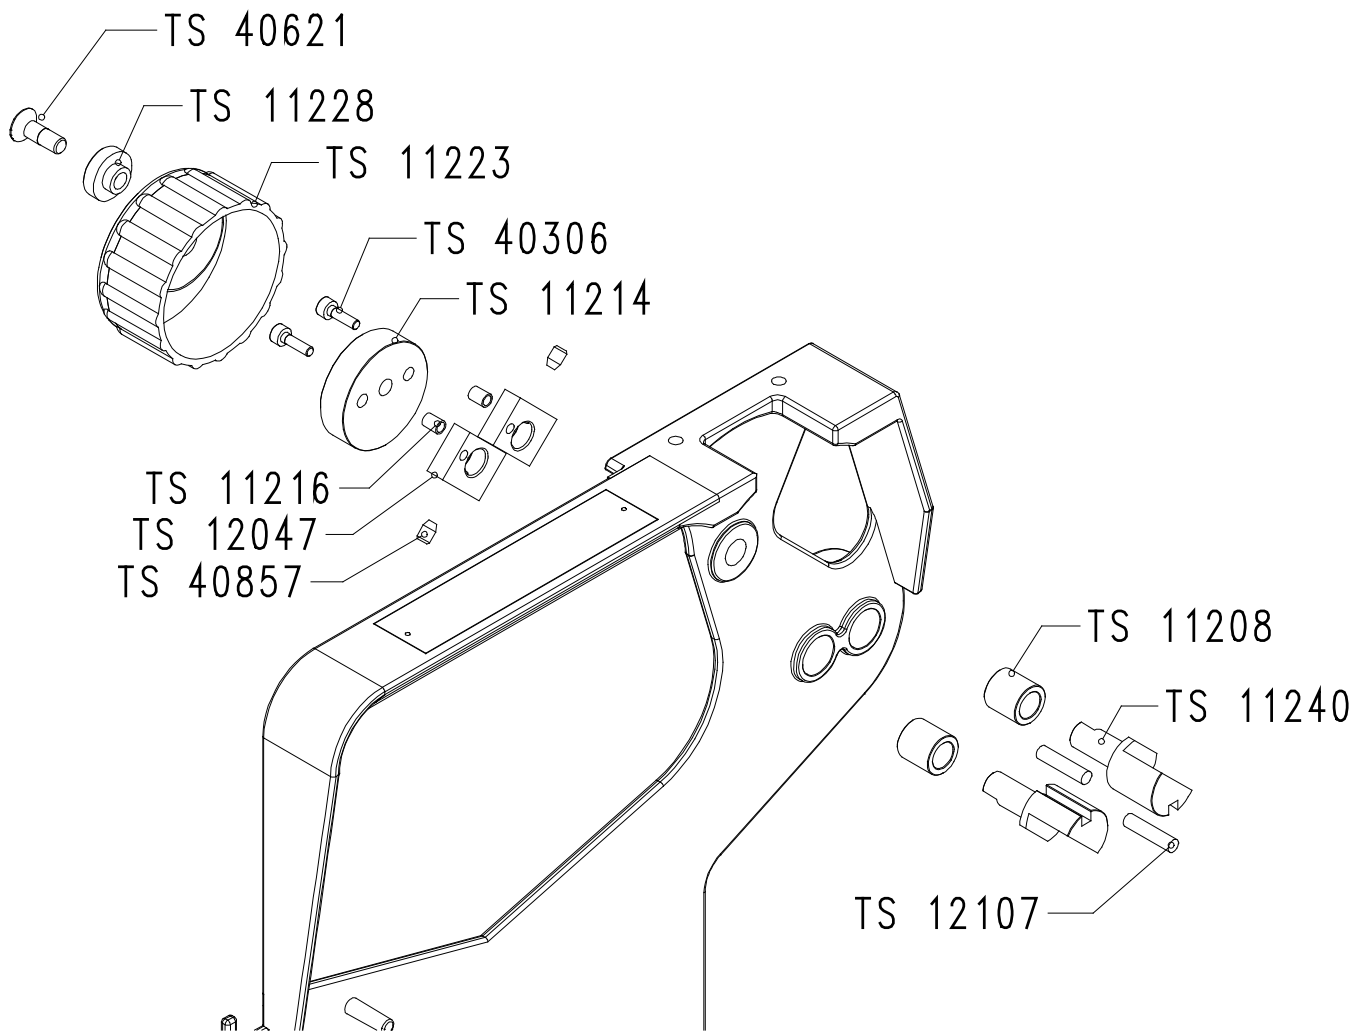

Figure 11-9: tape cleaner, details
- Figure 11-9: tape cleaner, details